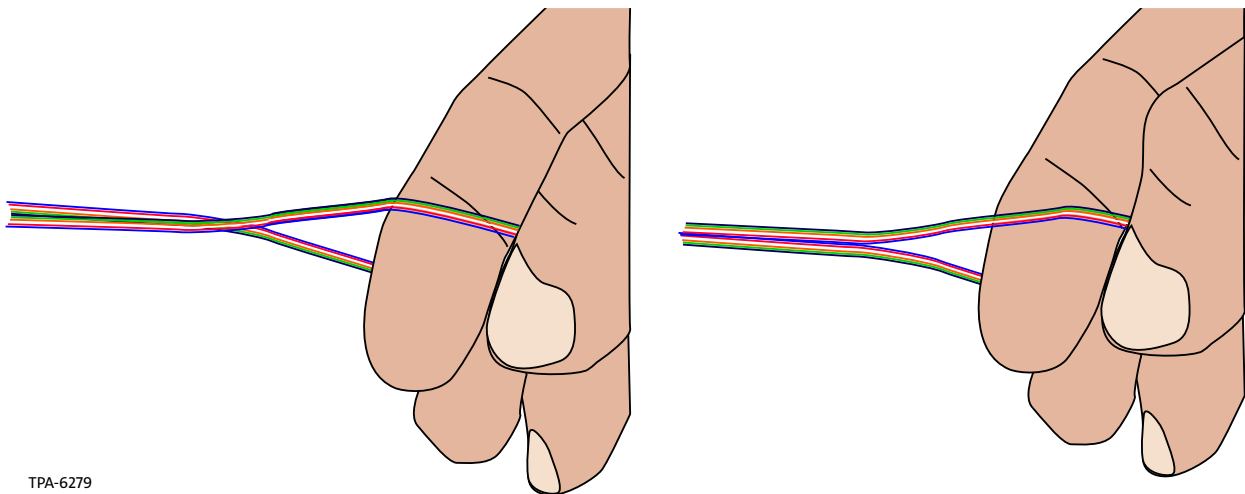

Figure 7
Step 6: Take one ribbon in each hand, pulling one upwards and one downwards (Figure 7).